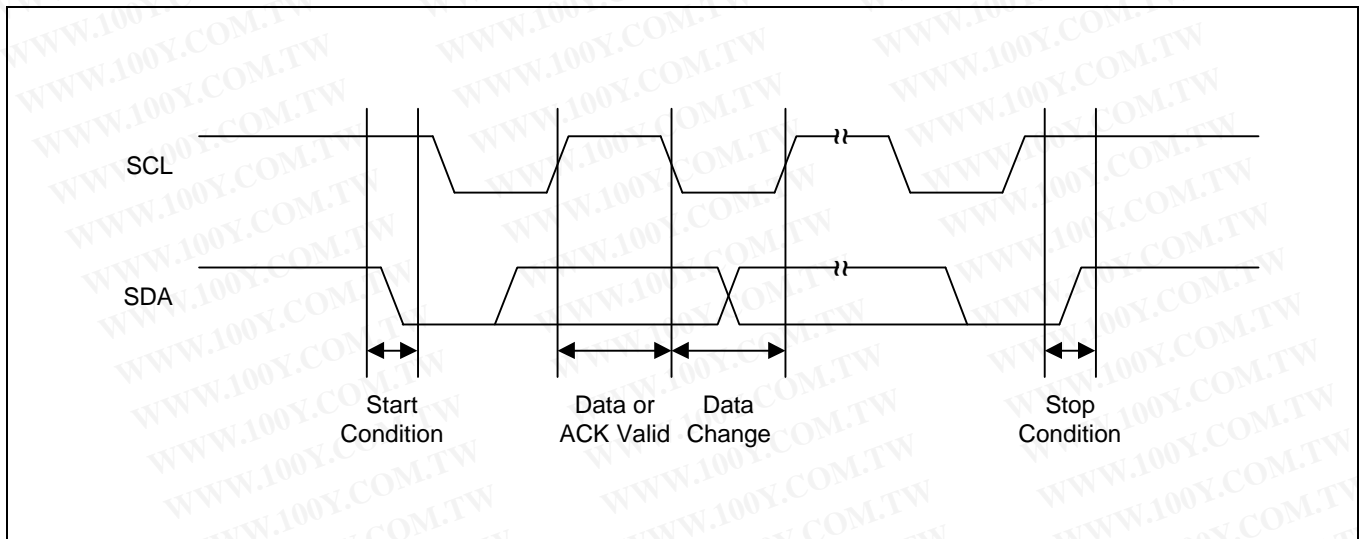

Figure 2-7. Data Transmission Sequence
- **Stop condition:** A stop condition is initiated by a Low-to-High transition of the SDA line while SCL remains High level. All bus operations must be completed by a stop condition (see Figure 2-7).